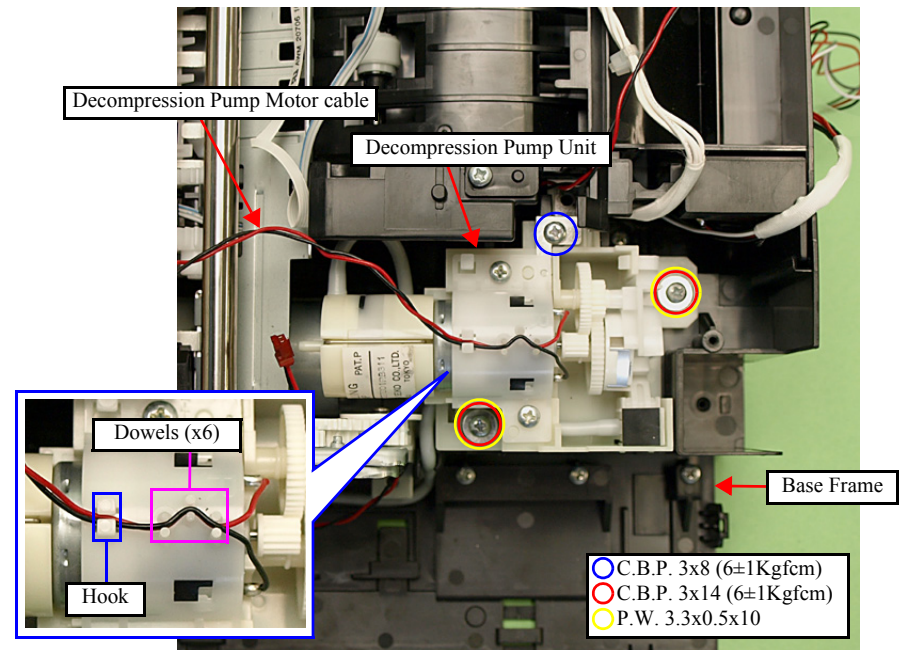

Figure 4-74. Removing the Decompression Pump Unit
- When routing the Decompression Pump Motor cable, make sure to secure it with the dowels (x6) and the hook on top of the Decompression Pump Unit as shown in Fig. 4-74.